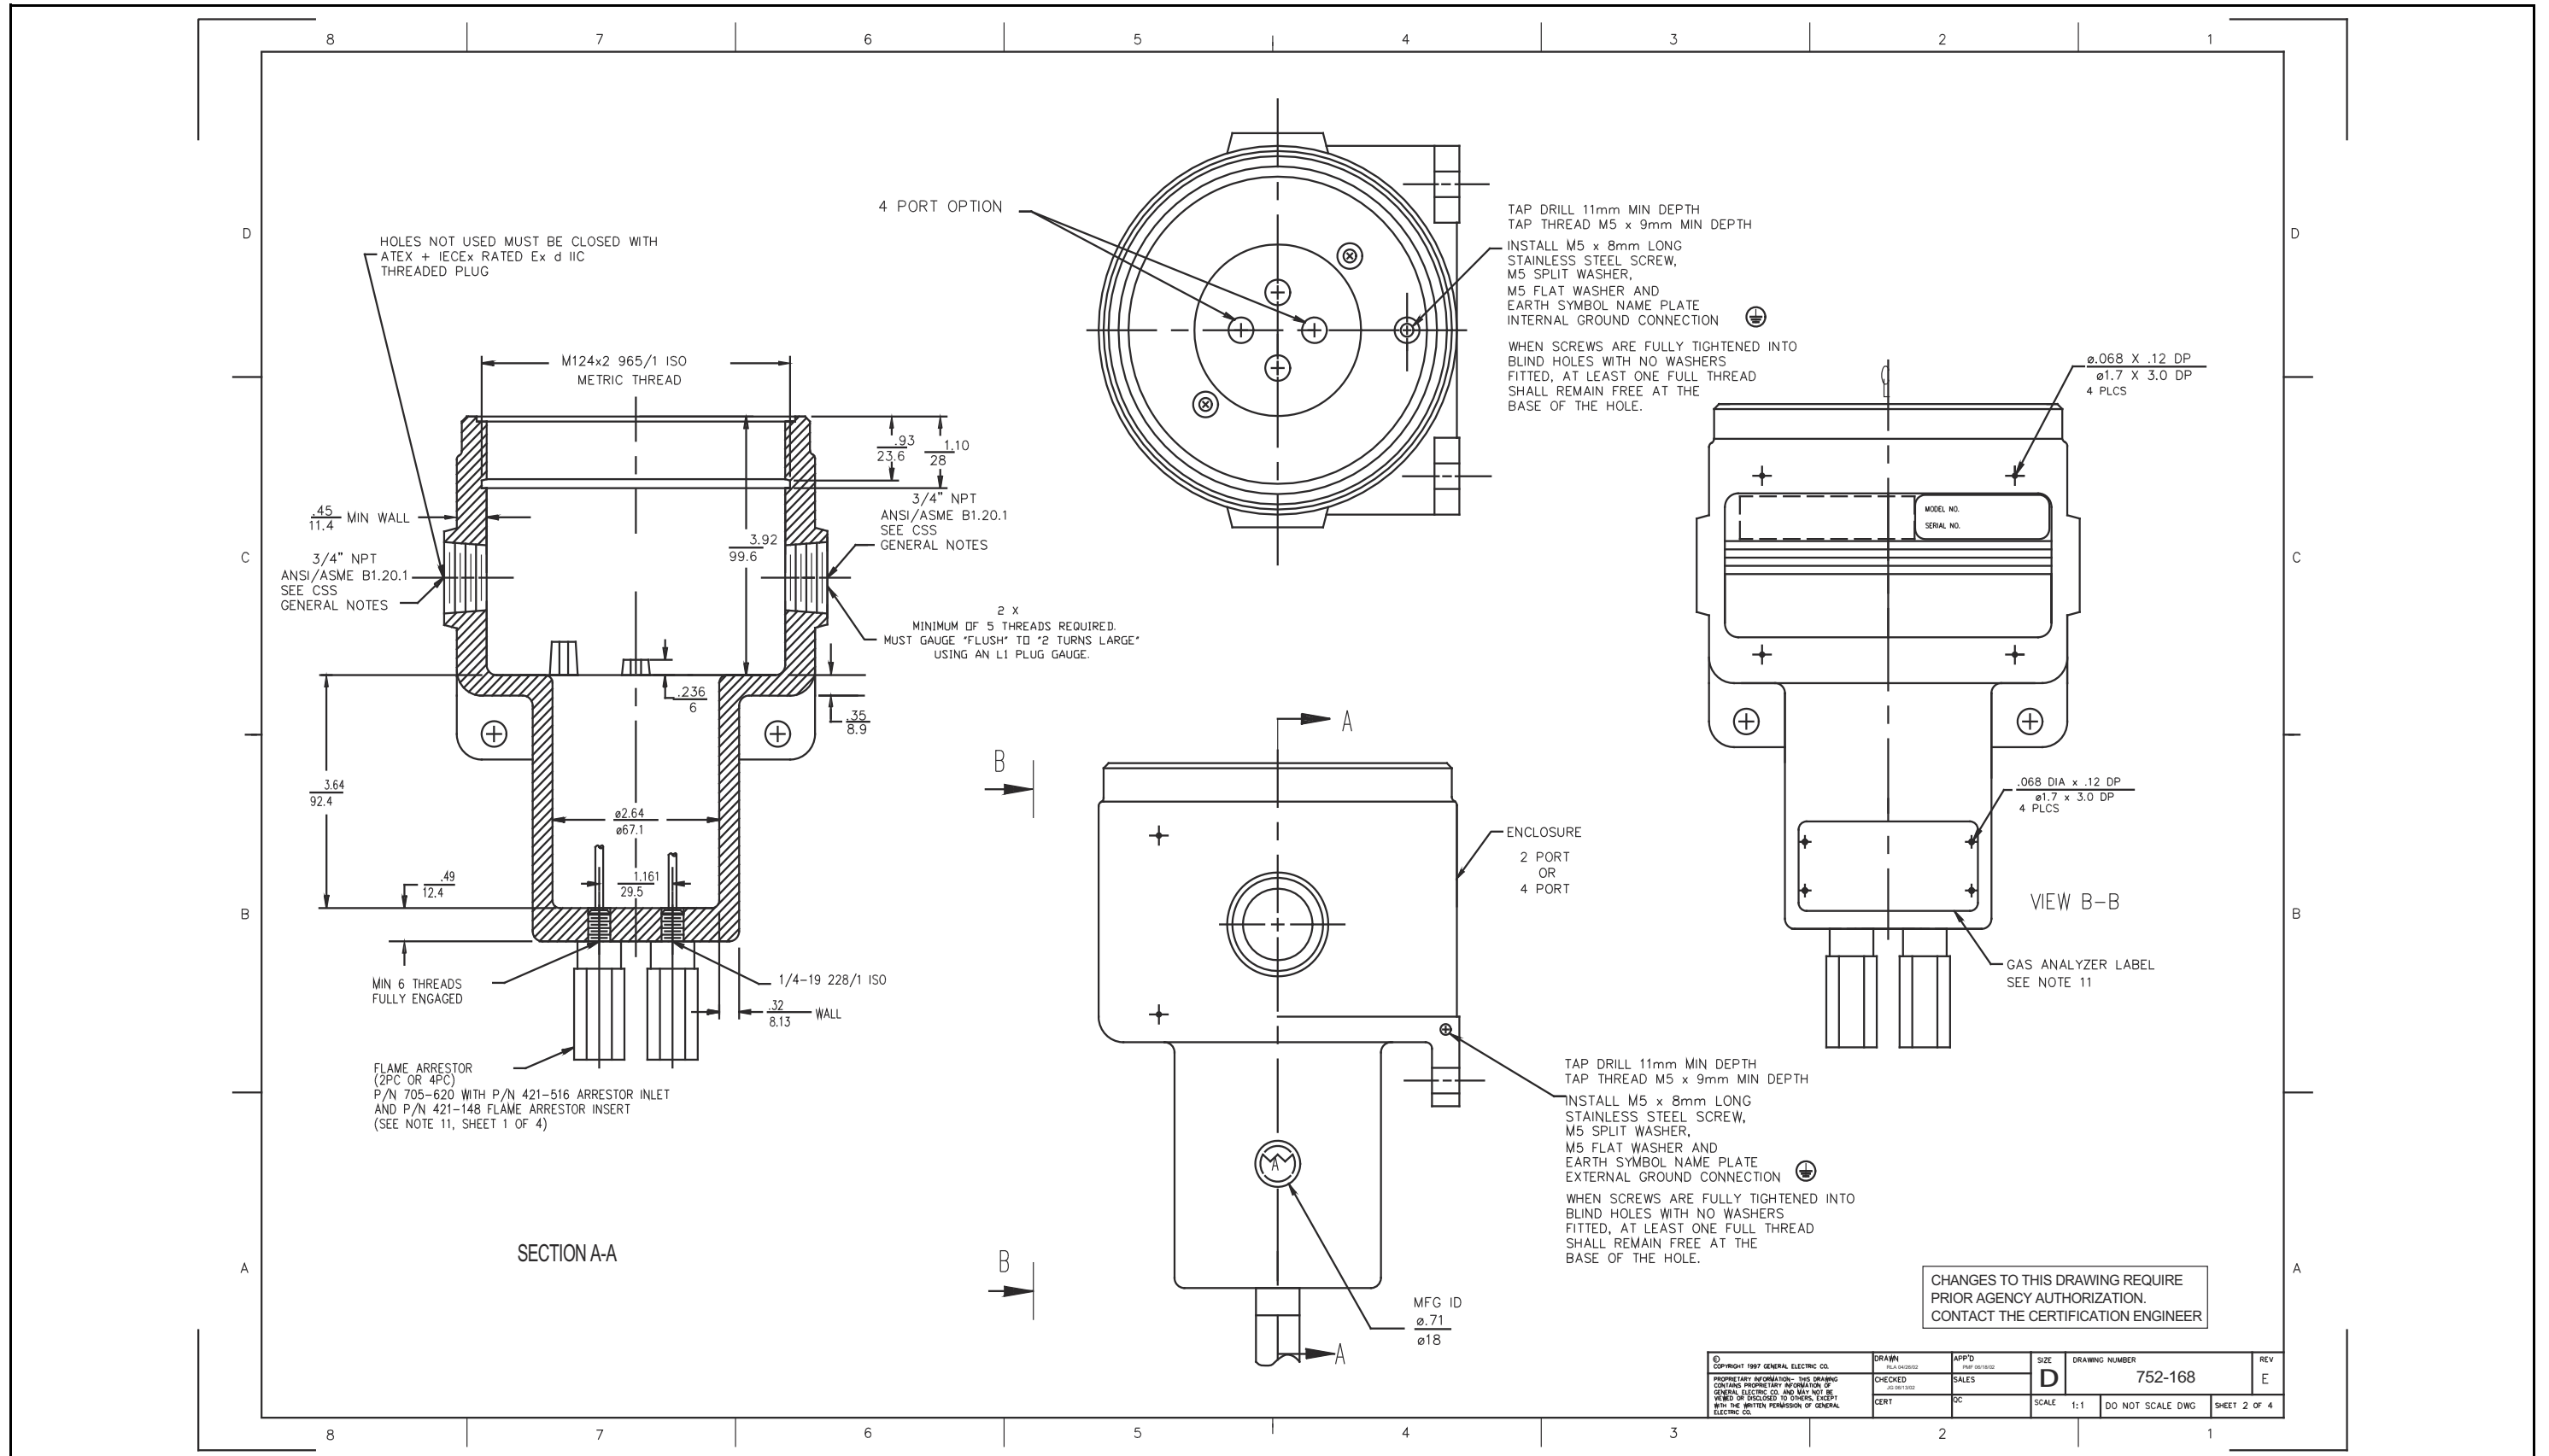

Figure 62: Certification Drawing (ref. dwg #752-168, Rev. E, SH2)
- Figure 62, "Certification Drawing (ref. dwg #752-168, Rev. E, SH2)" on page 72